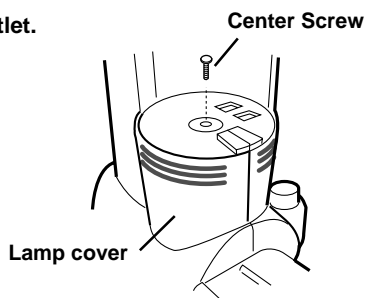

Fig.33
- 2** Unscrew the center screw. (Fig.33)